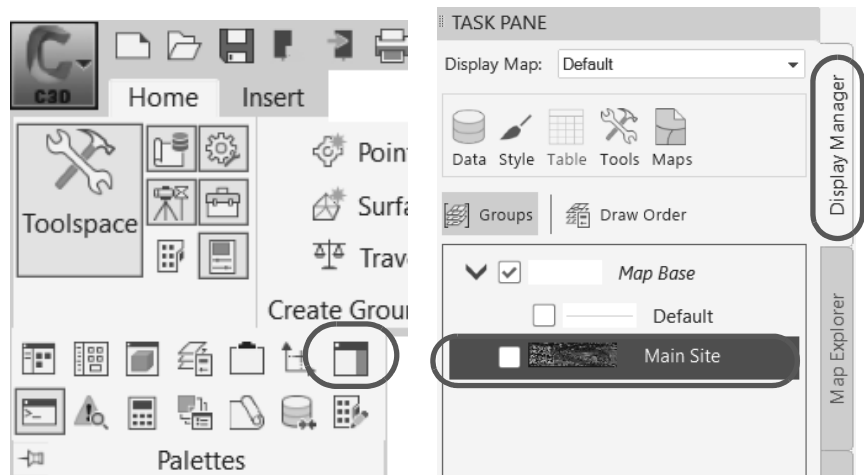

Figure 2–27
3. In the Task pane>*Display Manager* tab, clear the **Main Site Imperial** layer, as shown in Figure 2–27. Select *Map Base* again to clear the *Raster Layer* contextual tab. Close the map Task Pane.